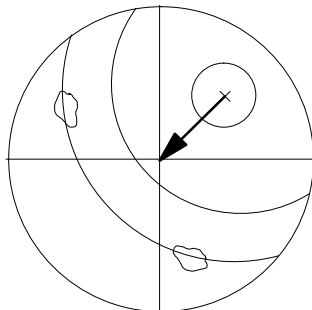

Fig. 105 Centering of Pol rotary stage
- Turn the stage. Almost all object features move on circles; the center of all these circles is the center of rotation of the stage (→ Fig. 105).
- With the small Allen wrench inserted at (5), bring this object spot to the point of intersection of the eyepiece cross lines, i.e. the optical axis of the 10x objective. This centering procedure may have to be repeated.